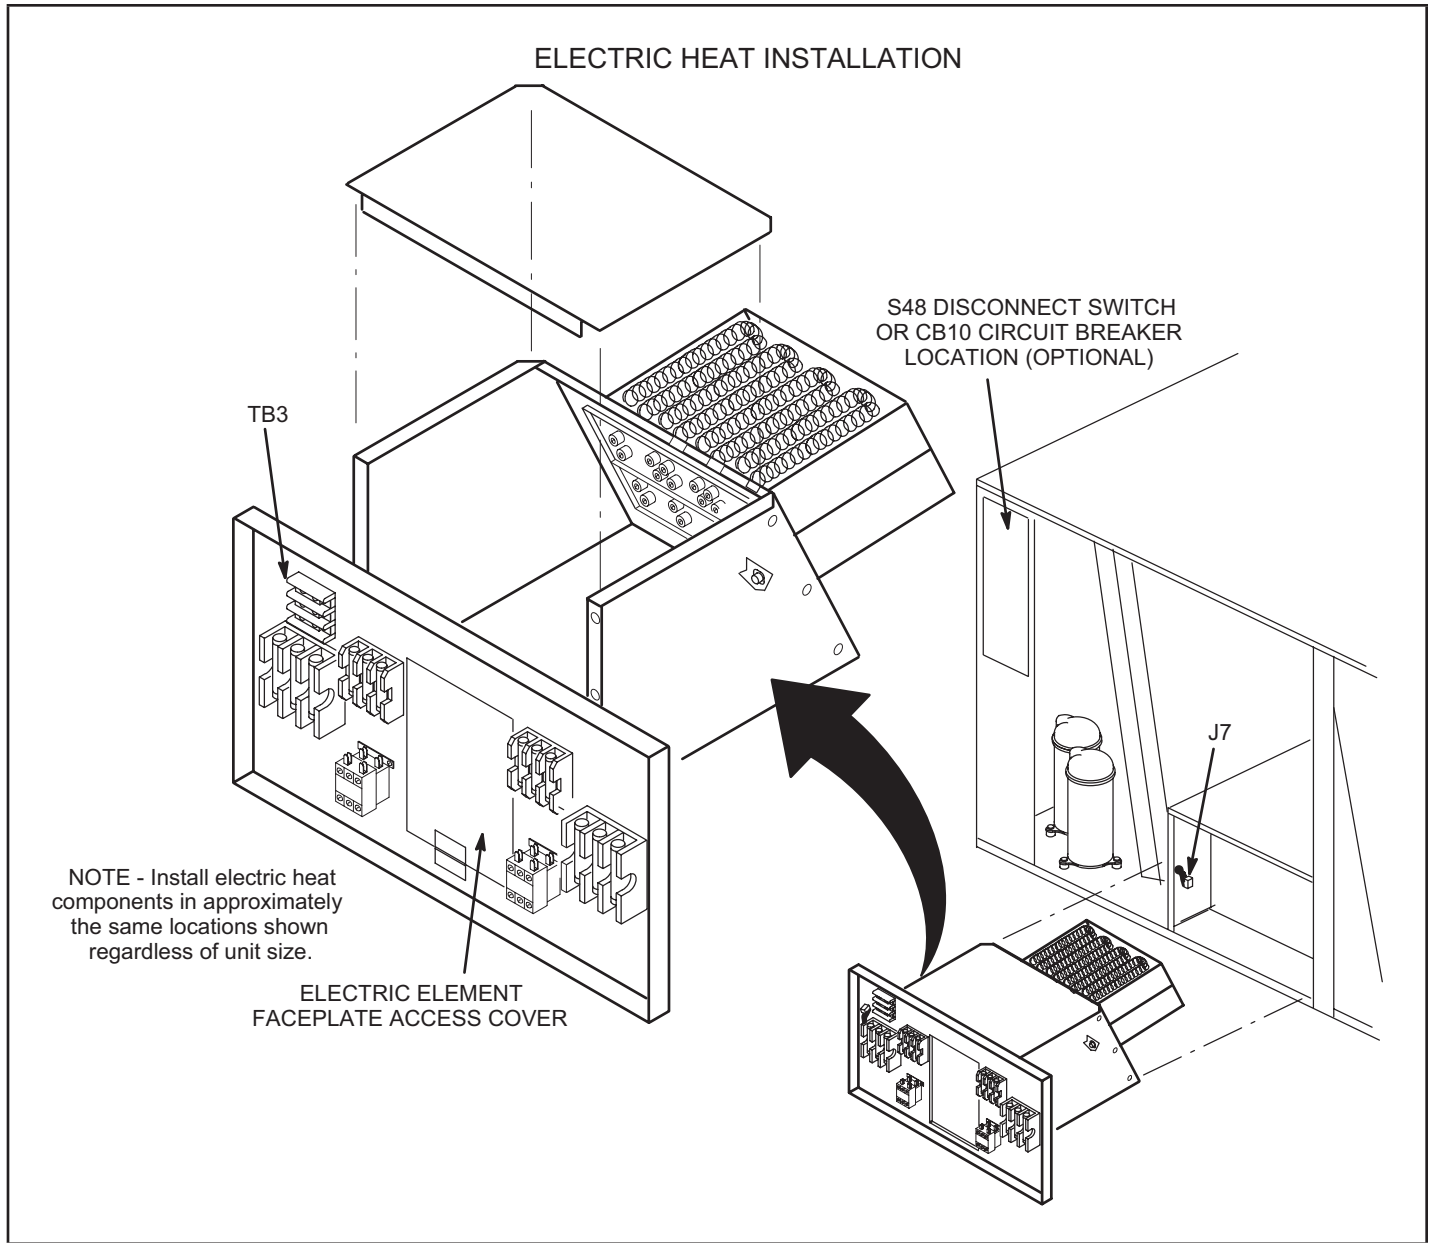

FIGURE 1
- 3 - Insert electric element heat assembly into rectangular vestibule opening and secure assembly using screws provided. See FIGURE 1.